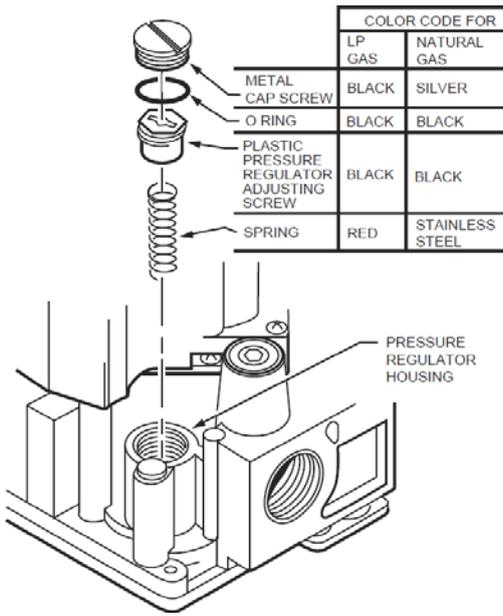

Fig. 2
4. Insert the replacement spring. Refer to Fig. 2.